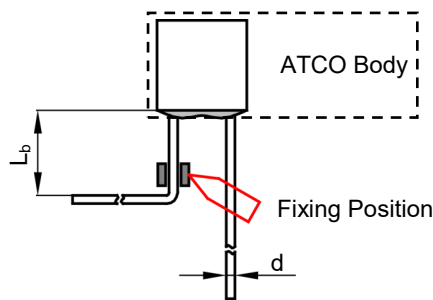

FIGURE X-2
2. When bending leads, please use pincher or similar tools to fix the product as shown in Fig.X-2, to avoid damaging the product.